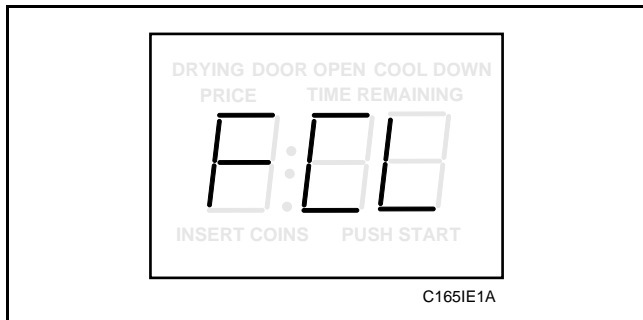

Figure 65
3. Press the LOW TEMP (+) pad **or** the NO HEAT (-) pad to scroll through the programmable options until “FCL” appears in the VFD, *Figure 65*.